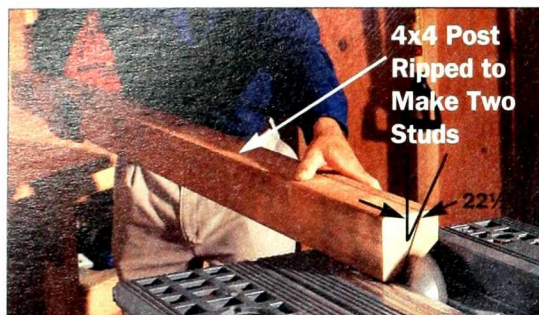

Figure 1: Cut two corner studs by ripping a 4x4 in half at 22½ degrees. It's a deep cut, so make one pass, rotate the 4x4, then make a second.
- Make pairs of corner studs out of 4x4s. Trim the 4x4s to length, then rip them lengthwise (Figure 1) at a 22½-degree angle with your table saw fence set to produce two identical halves. The fence will be about 2½ inches from the blade, but to get the position exactly right, run a short piece of 4x4 scrap through the saw, rotate it, and run it through again — the cuts should meet exactly. Slight ridges that appear on the cut faces can be planed or sanded down. This ripping is easy as long as you have selected straight 4x4s.